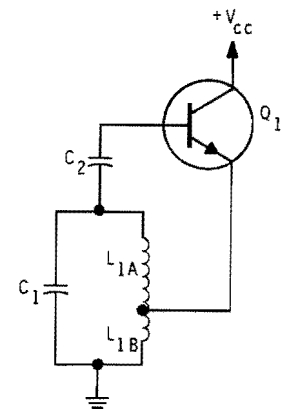

Figure 5-28
17. (LC) All LC oscillators use a tuned circuit to set the oscillation frequency. However, the method of obtaining positive feedback varies between different LC oscillators. In the circuit of Figure 5-28, positive feedback results from the DC current through coil section \_\_\_\_\_.
18. ( $L_{1B}$ ) The oscillator shown in Figure 5-28 is a series-fed Hartley. It is easily identified by the tapped coil and the transistor current flowing through a portion of the tank coil. The shunt-fed Hartley is different from the series-fed Hartley because no \_\_\_\_\_ current flows through the tank coil.